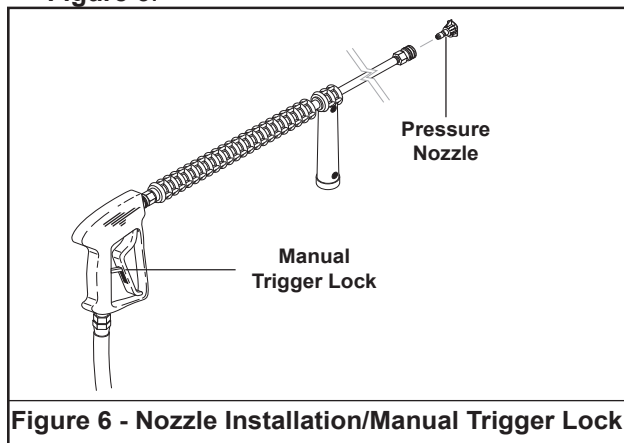

Figure 6 - Nozzle Installation/Manual Trigger Lock
7. Install the proper pressure nozzle for your cleaning needs on the end of wand, refer to Figure 6.
IMPORTANT: The trigger gun provided with this pressure washer is equipped with a manual trigger lock to prevent accidental operation of the trigger gun. (Refer to Figure 6.) The manual trigger lock should be used whenever the trigger gun is not in use.